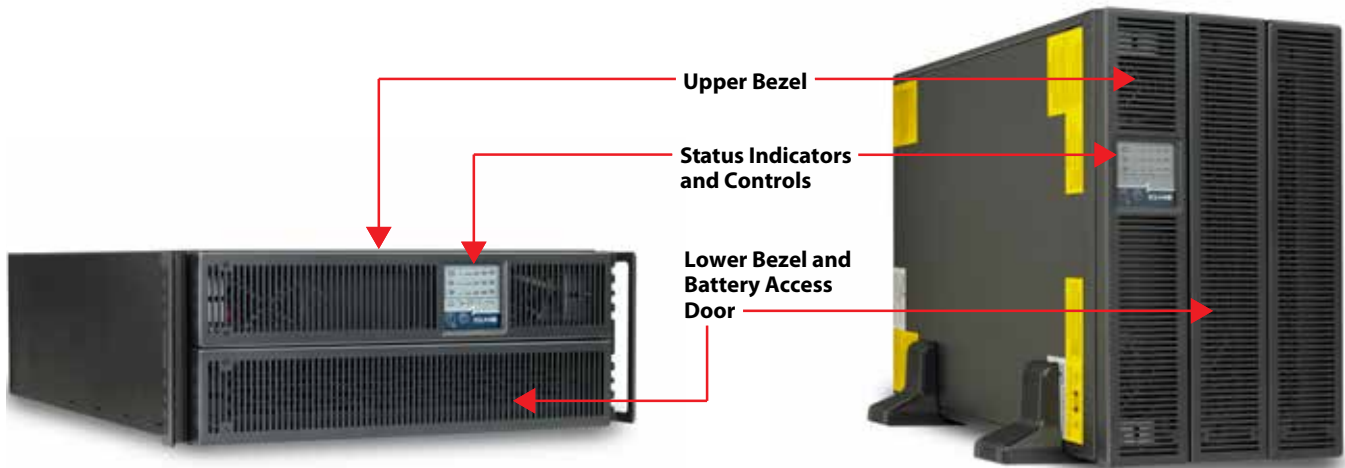

Figure 2: Front view—rack-mount and tower configurations
5. Place the S4KC and any battery cabinets on the support bases. Each S4KC requires two support assemblies as shown in Figure 2.